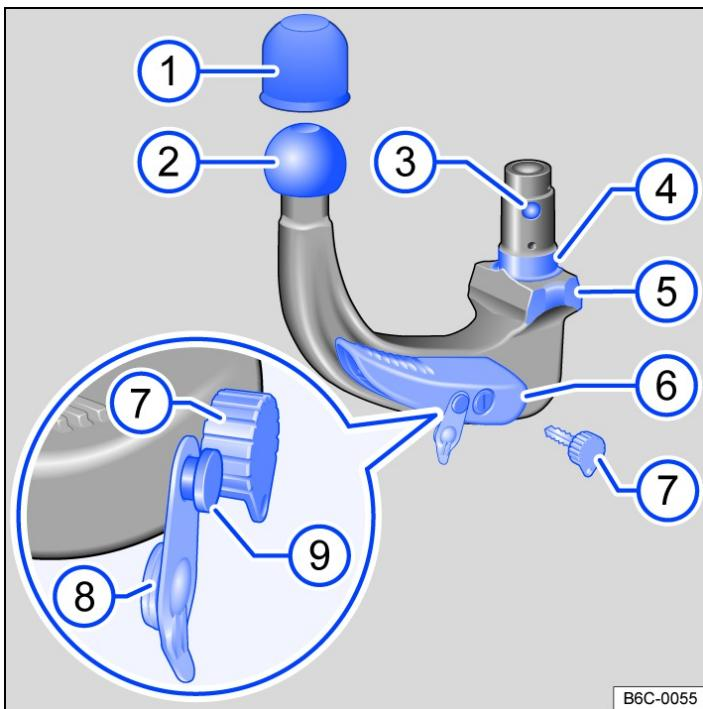

Fig. 1 Overview: removable ball head.
### Key to Fig. 1
- Check to ensure that the mounting, locking lever → Fig. 1 6, shank 4 and the retaining balls 3 of the ball head are all clean and not damaged → 1. Clean if necessary.